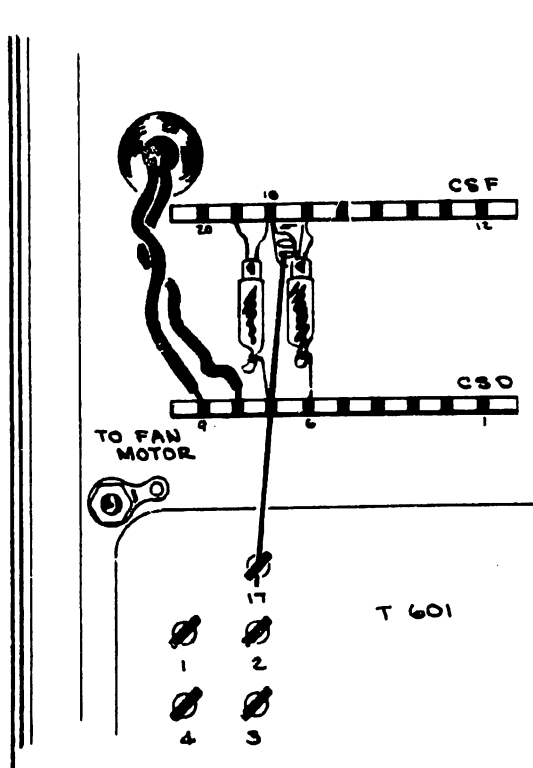
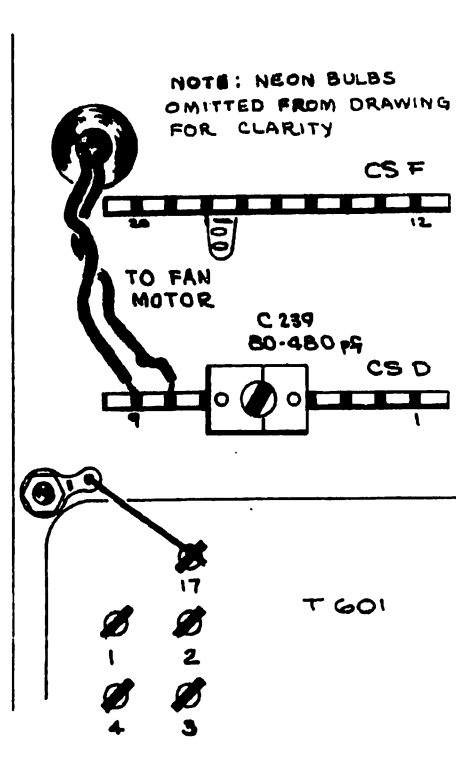

Fig. 14A BEFORE
Fig. 14B AFTER
- () 71. Move the neon holder from CSD-7 to CSD-6. See Fig. 14A for locations.
- () If a bare wire is connected from terminal 17 of T601 to CSD-7 to the ground lug indicated in Fig. 14A, remove this wire completely; instead, install a #16 bare wire (from kit) between terminal 17 and the ground lug shown in Fig. 14B. (If no lug is present, install a #10 solder lug from the kit.)
- () Install C239, an 80-480pF capacitor (from kit) between CSD-4 and CSD-7. See Fig. 14B.